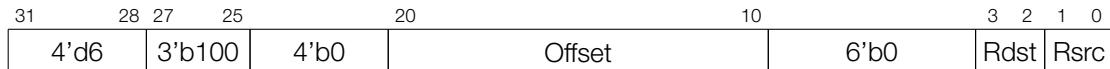

Figure 143: Instruction Type – ST
**Operand Description** - see Figure 143